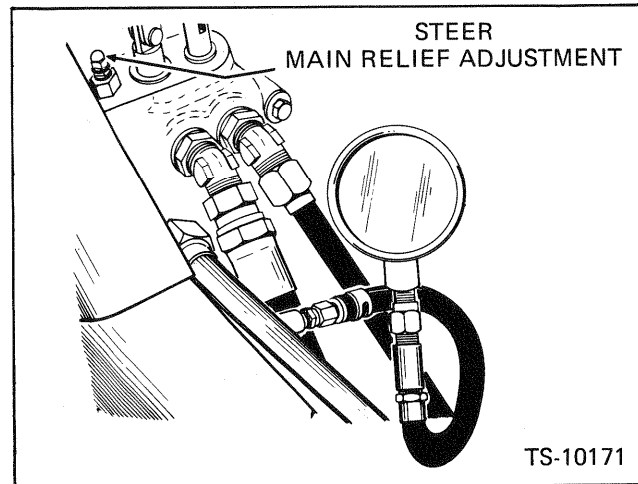

Fig. 11-2 Adjust and Check — Main Relief Valve
3. Attach a hydraulic gauge of at least 3,000 p.s.i. capacity to the fitting on the control valve supply tube located under the floor panel, next to the frame. Fig. 11-2.
5. Put the machine into a full left hand turn and hold the lever in the full turn position. The gauge should register 2,000 p.s.i. at 2,000 rpm. If not, adjust the main relief by removing the acorn nut, loosening the jam nut and adjusting the set screw located on the top of the main control valve assembly until 2,000 p.s.i. registers on the gauge. Fig. 11-2.